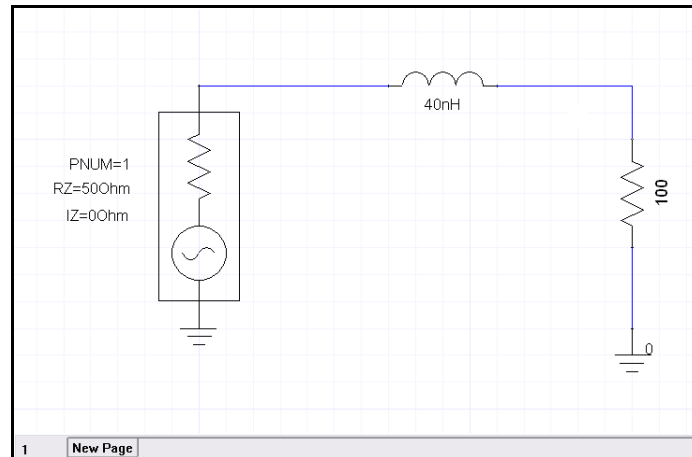

Figure 7. Final wired circuit with port defined.
14. Keep on clicking **OK** until the schematic shows again. The source port's symbol will have changed to an AC source with a series resistor as shown in Fig. 7. The term **PNUM=1** means microwave port number 1; **RZ=50Ohm** means the real part of the source impedance is 50 Ω ; and **IZ=0Ohm** means the imaginary part of the source impedance is 0 Ω .